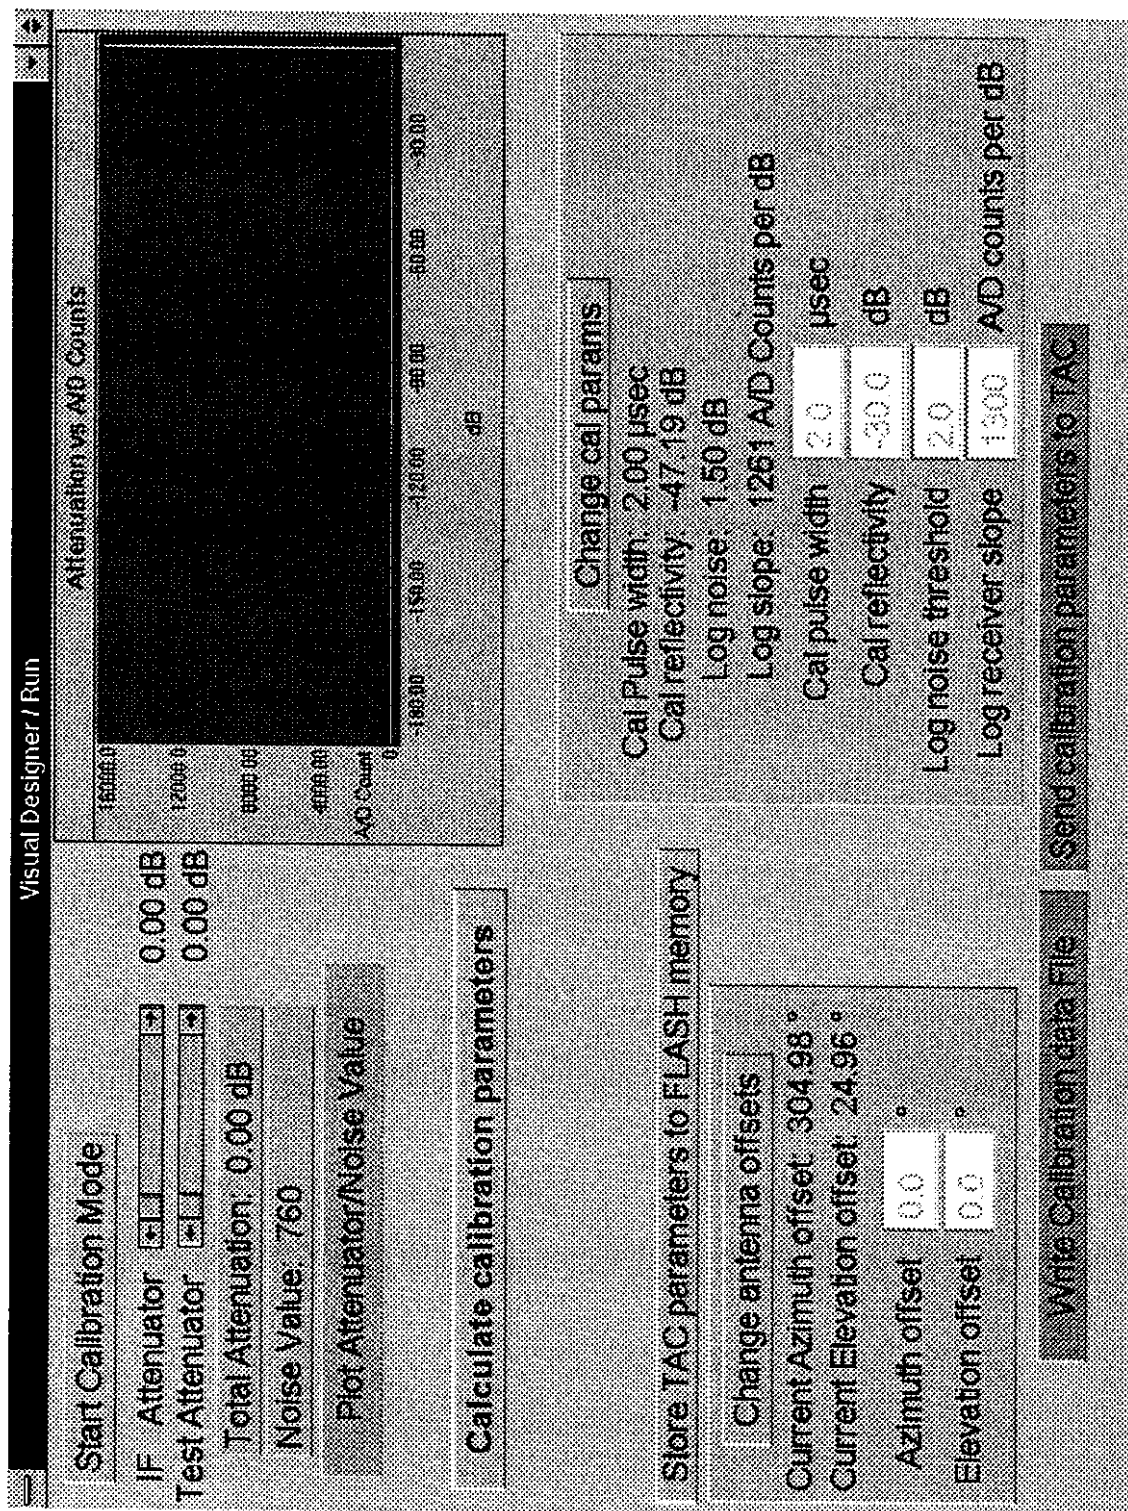

Figure 48. Receiver Calibration Screen.
3. Observe that the receiver calibration screen shown in Figure 48 appears.